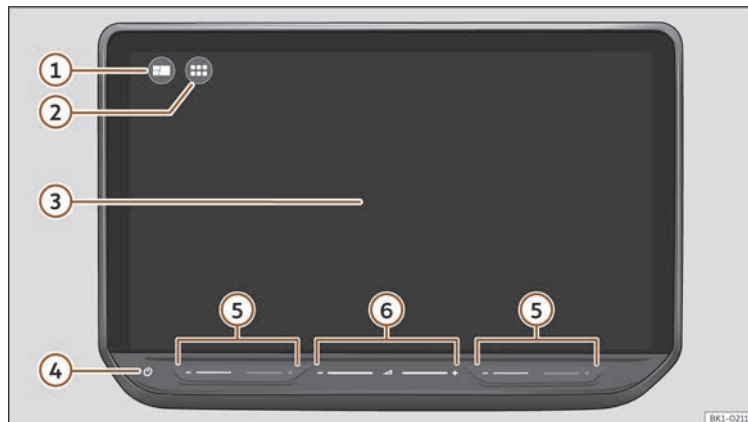

Fig. 159 Overview: control unit
Customise the top menu or the HOME >>> **Fig. 159** ① view to quickly access your favourite or most frequently used functions.